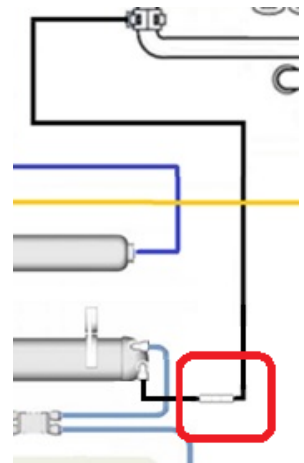

Fig 3. Flow Restrictor
- 7) Other end of **black tubing** should connect to flow restrictor at the end with black lock pin. The flow restrictor is connected to the waste outlet of RO TFC membrane. See fig 3 on page 11.